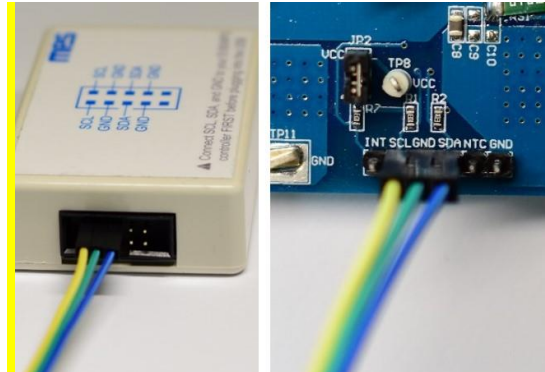

Figure 6: EVB to MPS USB Communication Interface Wire Connection
2. Connect SCL, SDA, and GND (see Figure 6). If needed, refer to the datasheet for further clarification.